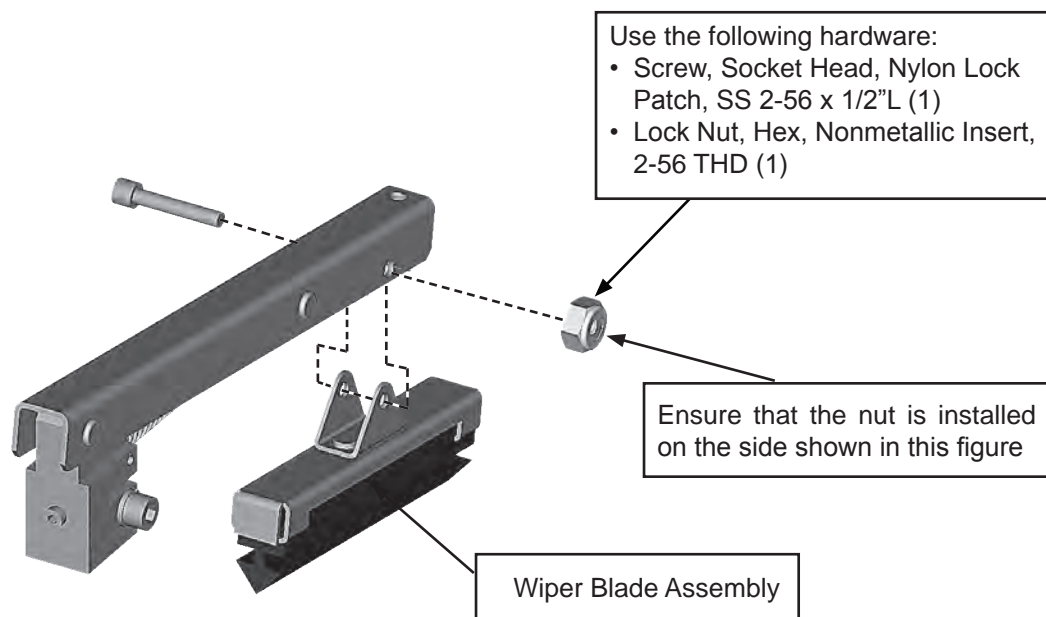

Figure 34. Wiper Blade Replacement
- replace the blade using 2-56 hardware (see Figure 34) verify that the new wiper blade assembly has free movement on the arm. If not, loosen the screw and check again for free movement
NOTE: Ensure that the nut is installed on the side shown in Figure 34.